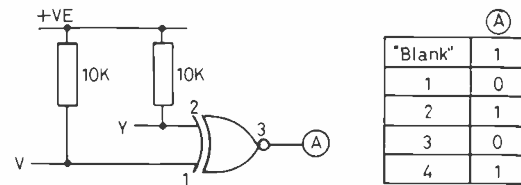
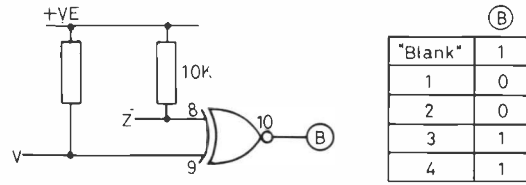
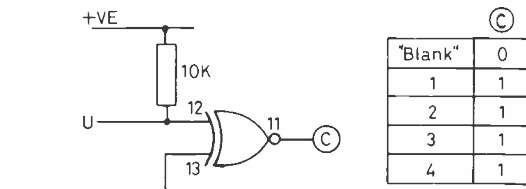

Fig. 1
Fig. 2
Fig. 3
(a) Studying Table 1 again we can combine switch lines V and Y in a 4077 EX NOR gate, the truth table of which is given in Table 3, to generate (A) 10101 for switch positions: 'Blank', 1, 2, 3, 4 (Fig. 1). Similarly combining V and Z will produce (B) 10011 (Fig. 2), and U will give (C) 01111 (Fig. 3). Putting together (A), (B) and (C) will give the binary equivalents for 3-7. This could now be simply decoded by the 7447, but by feeding it via a 4008 4-bit adder (Fig. 4) we can choose whether to add 0 or 1, using IC1b, controlled by the mic. socket pin 3 which goes low on Rx, to give a reading of 4-8 when in repeater Rx mode. If SW1 is left open, no shift will take place in the display. Readers who have a rig which does not have such a convenient pin, but have one which goes low on Tx should modify the IC1b circuit to that shown in Fig. 4a (SW1 closed for simplex).